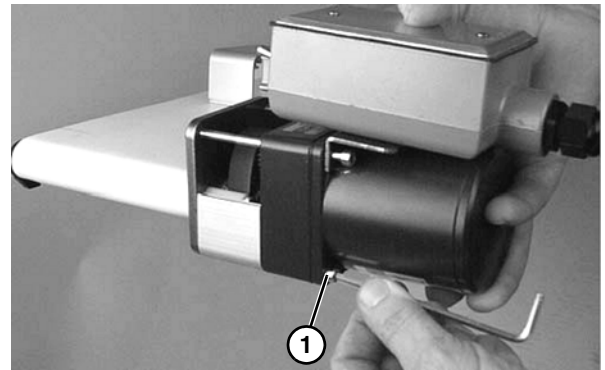

Figure 57
6. Insert gearmotor drive pulley into timing belt. Mount assembly with two (2) bottom screws (Figure 57, item 1). Tighten to 45 in-lb (5 Nm).